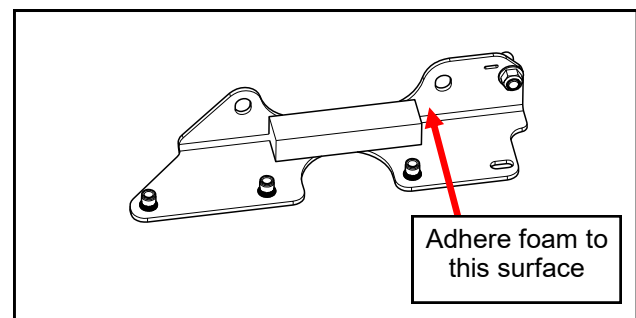

Fig. 8.1 Gas spring bracket foam
- 8.1 Cut the supplied piece of 1" x 3/4" foam in half to make two pieces approximately 4 inches long. Per figure 8.1, apply the foam to the center of the inside corner of the left and right gas spring brackets.